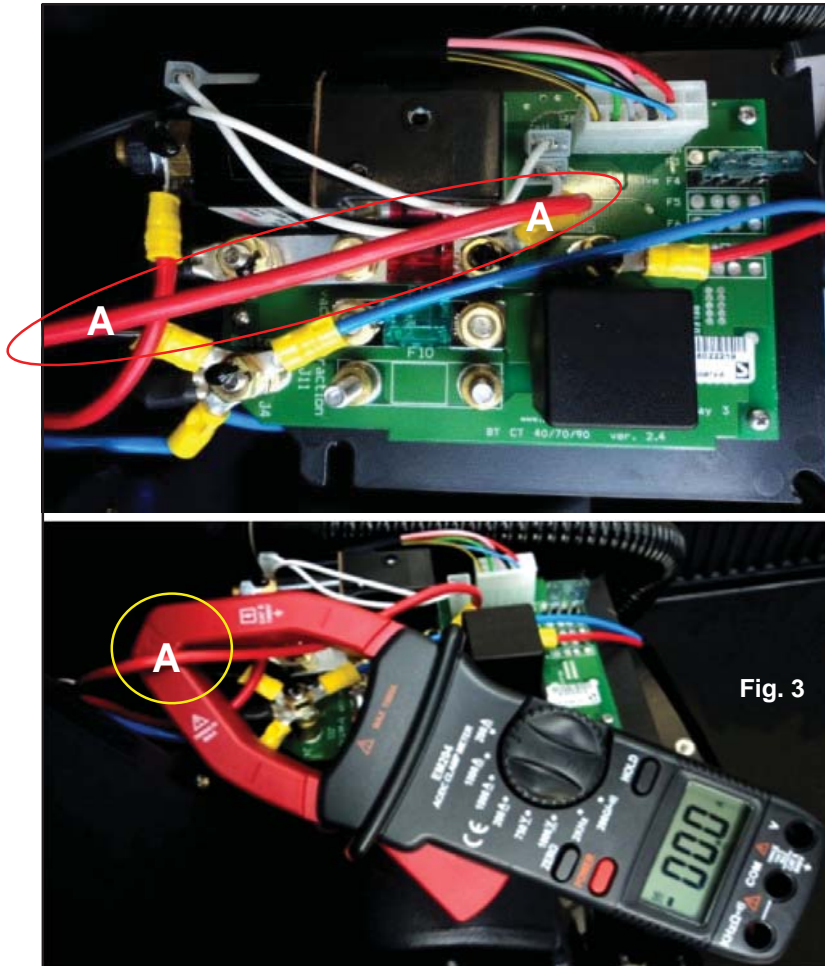

Fig. 3
- 9 Connect the clamp to the red wire **A** as shown in Figure 3.